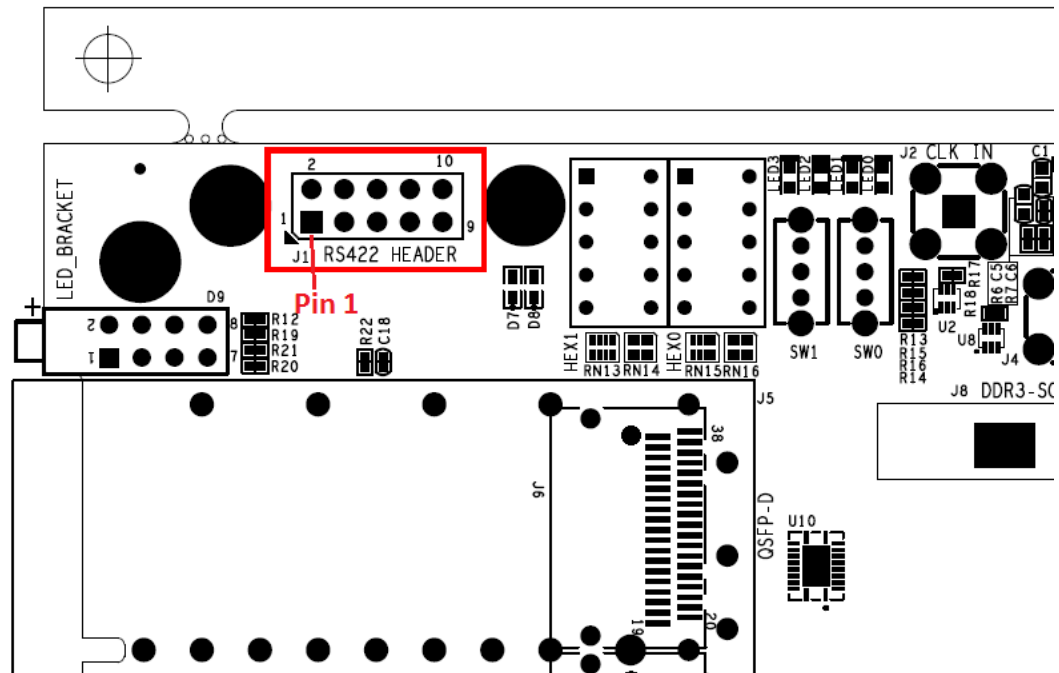

Figure 3-4 Location of RS422 header (J1) on DE5a-Net board
1. Make sure the pin 1 position of J1 RS422 header on DE5a-Net board, as shown in Figure 3-4.